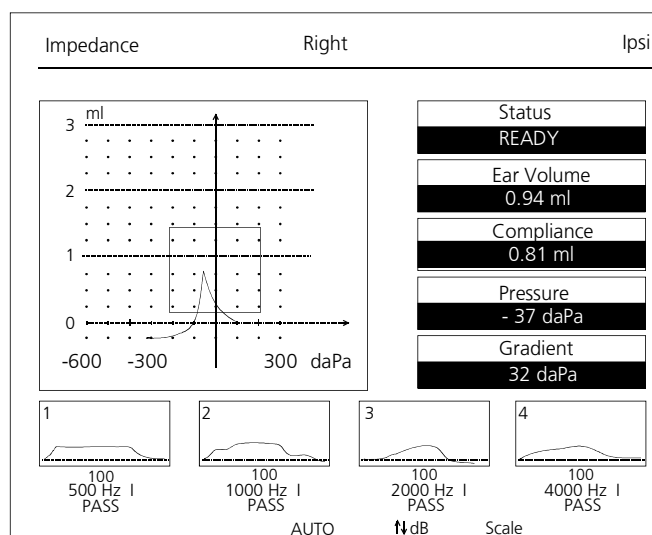

Figure 23 Example of a normal Tympanogram with ipsilateral reflex results
In addition to the Tympanogram shown on the left side and the values shown on the right, now you can see the results of the reflex measurement in the lower part of the display ⑤. In four boxes marked 1 to 4 the stapedius response is shown graphically. Below each box the test level, the test frequency, the type of the test (I=ipsi, C=contra lateral) are shown. Also the test result is shown as "PASS" or "FAIL". In the example in Figure 23 for 500 Hz a stapedius reflex was